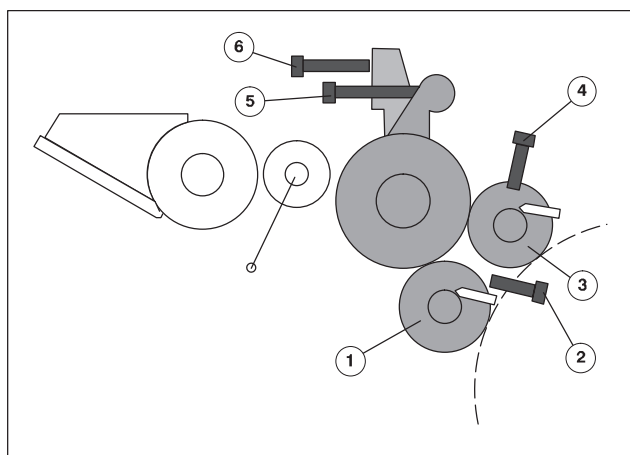

Fig. 35 Adjusting the inking form rollers
1. **Lower inking form roller** (Fig. 35/1): turn yellow adjusting screw (Fig. 35/2) clockwise with the operator tool: the ink stripe becomes wider
2. **Upper inking form roller** (Fig. 35/3): turn blue adjusting screw (Fig. 35/4) clockwise with the operator tool: the ink stripe becomes wider